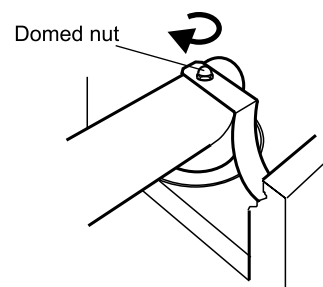

Fig. 24
- 6 Ensure that the flexible air tube hanging bracket is positioned correctly. See Fig. 24.
- 7 Turn the domed nut of the flue elbow clamp clockwise until the elbow is clamped to the boiler. Tighten the domed nut using a spanner. See Fig. 24.